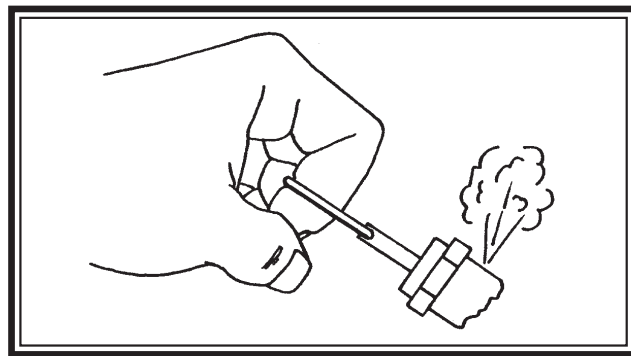

Fig. 3 Checking Pressure Relief Valves & Relieving System Pressure
Step 2) Reduce the air pressure in the tank to 30 PSIG by pulling the pressure relief valve ring (see **Fig. 3**).
Step 2) Completely relieve the system of air pressure by pulling the ring on a pressure relief valve. Continue to pull the ring until all air pressure escapes (see **Fig. 3**).
- Pull on the ring of the pressure relief valves to make sure they are operating correctly. Air pressure should escape when the ring is pulled (see **Fig. 3**).